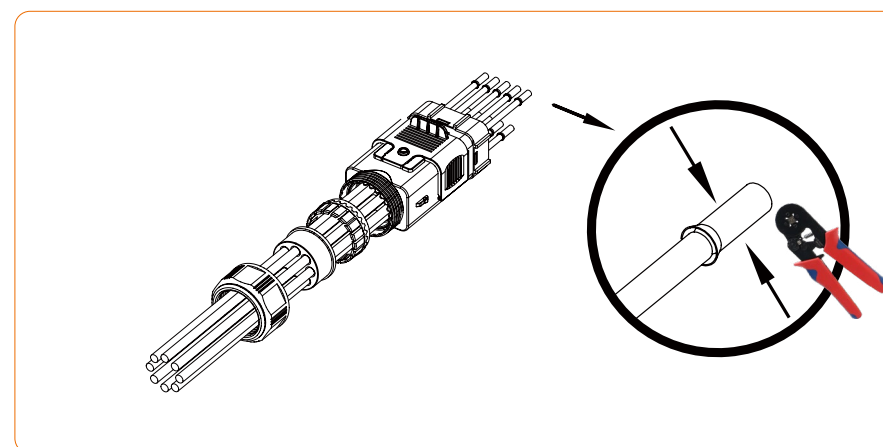

Figure 5-12
- 2) Insert the stripped cable into the tubular terminal and crimp it securely with a dedicated crimping tool, as shown in Figure 5-12.